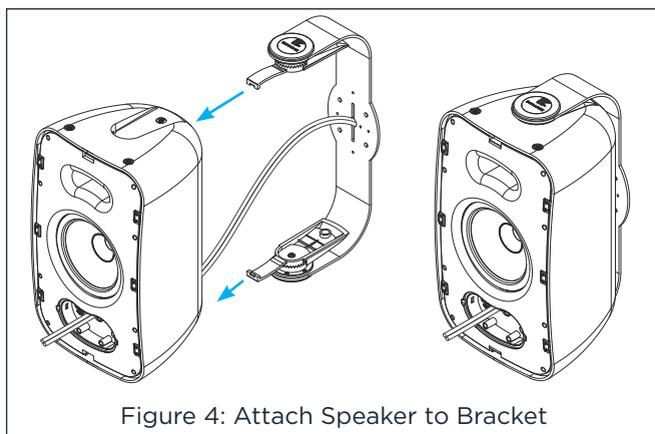

Figure 4: Attach Speaker to Bracket
6. Slide the speaker onto the bracket until the locks snap into place (see Figure 4). Pull enough wire through the front of the speaker to allow connection to the terminals.